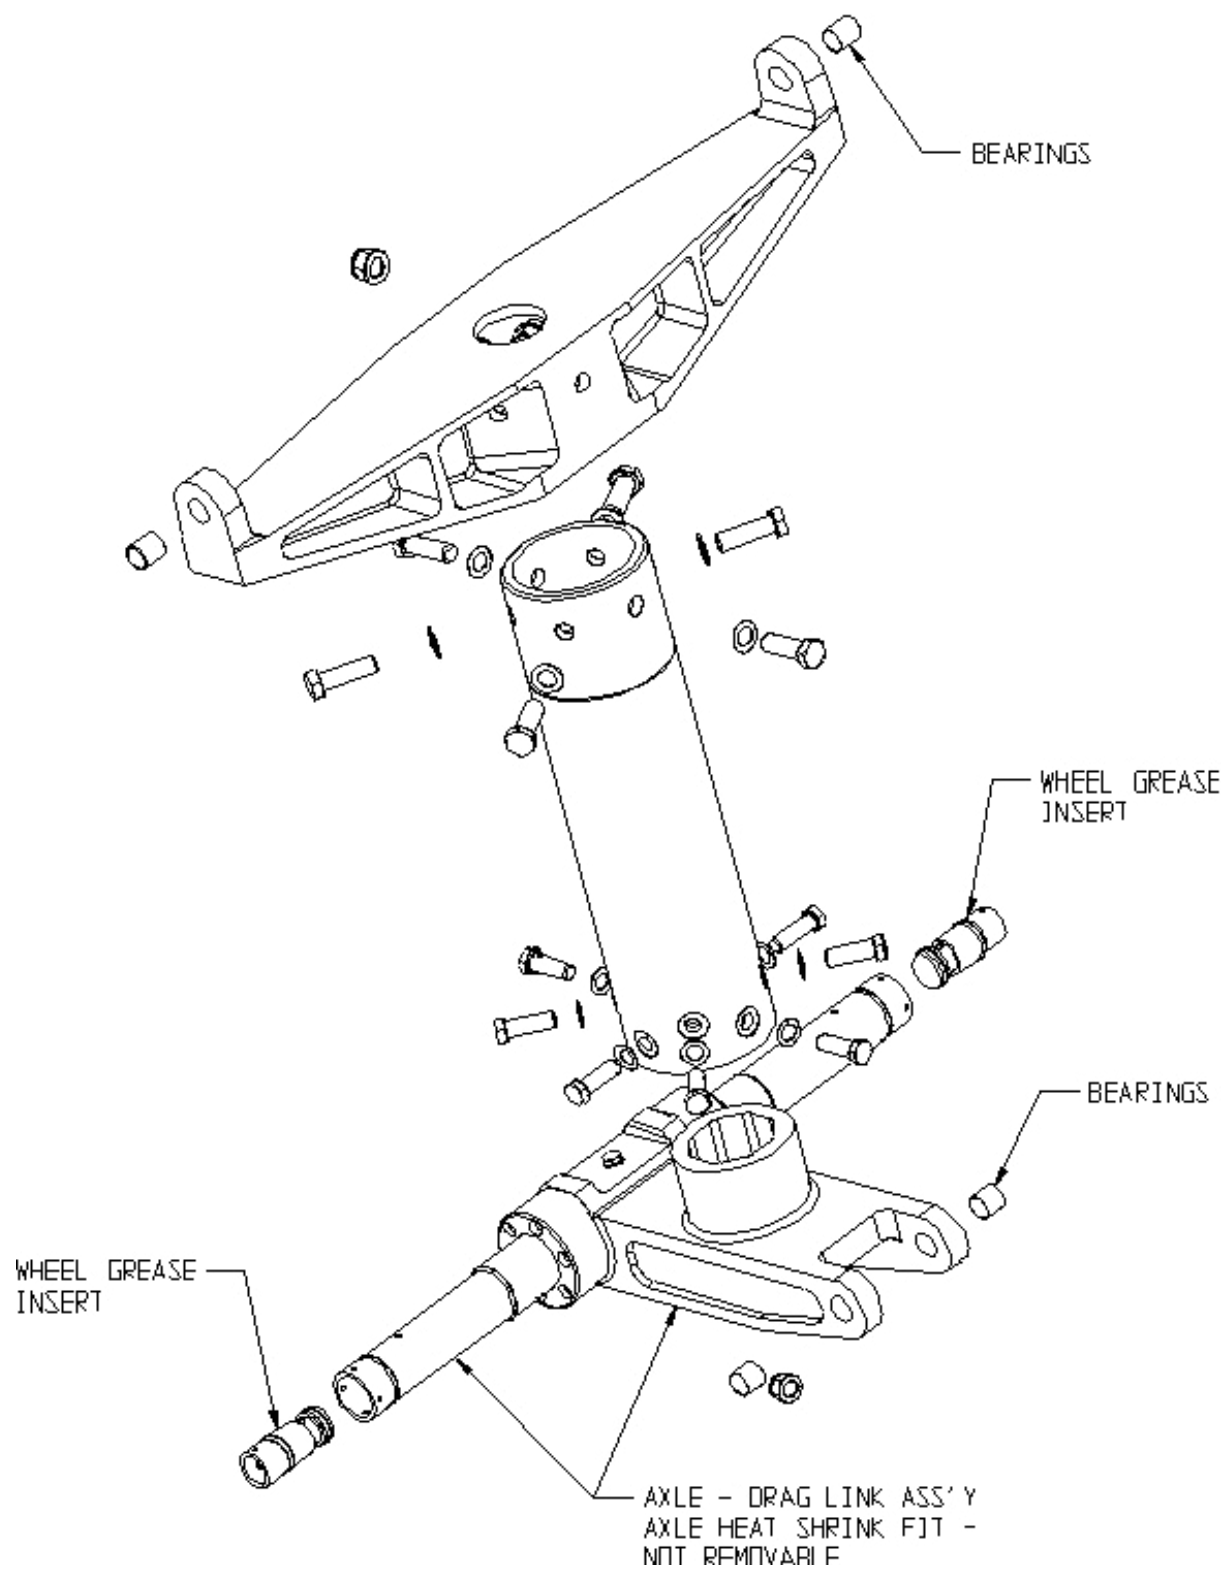

FIGURE 2.7 ASSEMBLY – MAIN GEAR DRAG LINK
Note: If replacing any of the (2) bushings located within the drag brace or the (2) within the axle assembly, the internal grooves must be aligned to the zerk fitting and a grease hole must be drilled into the bushing after insertion. These are the "bearings" identified in Figure 2.7.